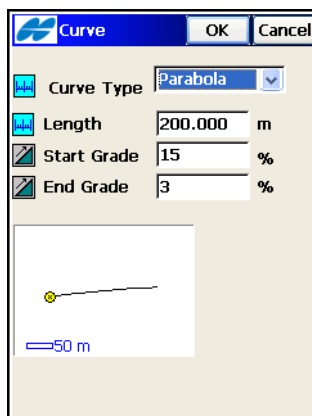

Figure 7-20. Add Vertical Curve
2. On the **Curve** screen (Figure 7-20), select the type of curve to add, either *Circular Arc* or *Parabola*. The plot at the bottom of the screen shows the element appearance.